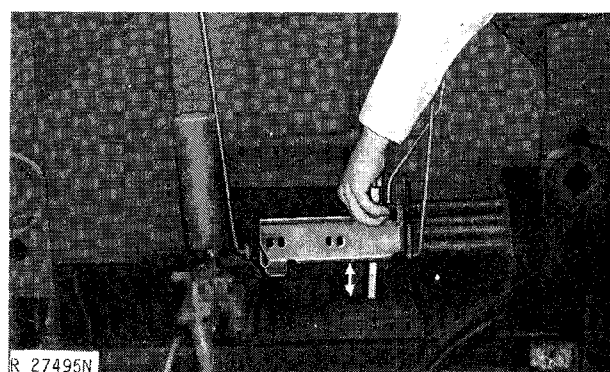

Fig. 21-Measuring Placement of Hydraulic Control Inner Support
- 40. Measure distance between hydraulic control inner support and SOUND-GARD body to insure that support is reinstalled in its original position (Fig. 21).